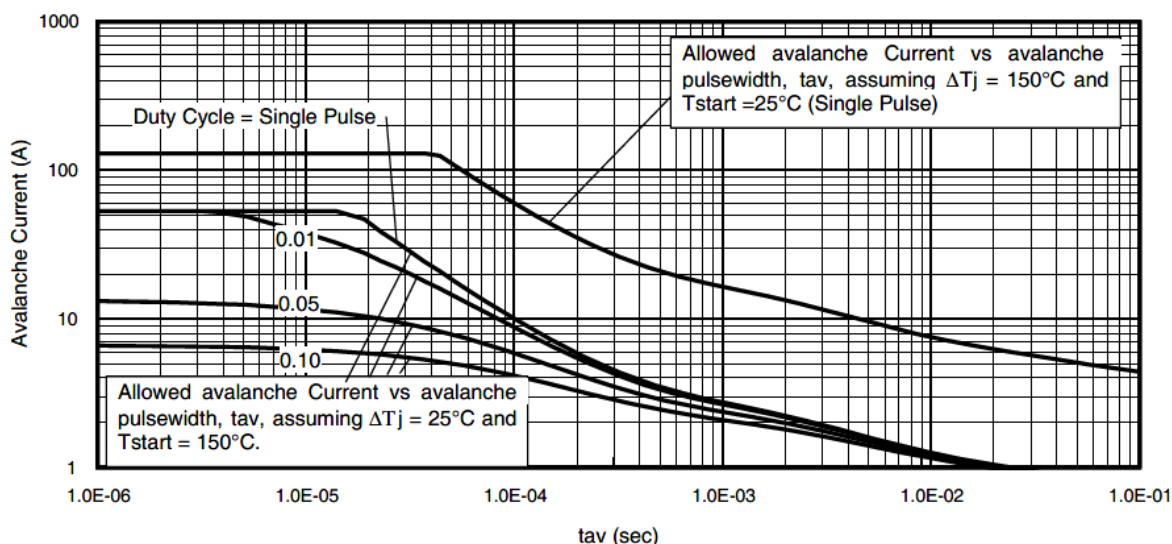

Fig 14. Typical Avalanche Current vs. Pulsewidth
Notes on Repetitive Avalanche Curves, Figures 14, 15: (For further info, see AN-1005 at www.irf.com)
7. ΔT = Allowable rise in junction temperature, not to exceed T_{jmax} (assumed as 25°C in Figure 14, 15).